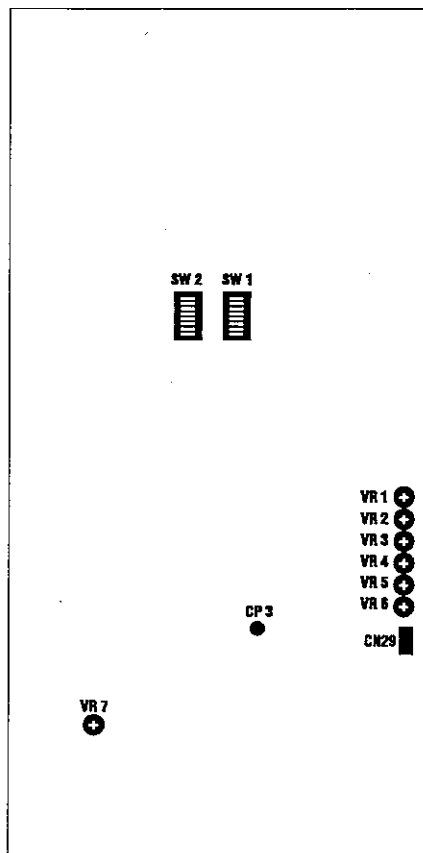

Figure 4-16
3. Set the Tape Speed to 15 ips, using the SPEED HI/LO button and, if necessary SW1-1 (Speed Pair) on the TRANSPORT CONTROL PCB assembly (Refer to **Figure 4-16**).